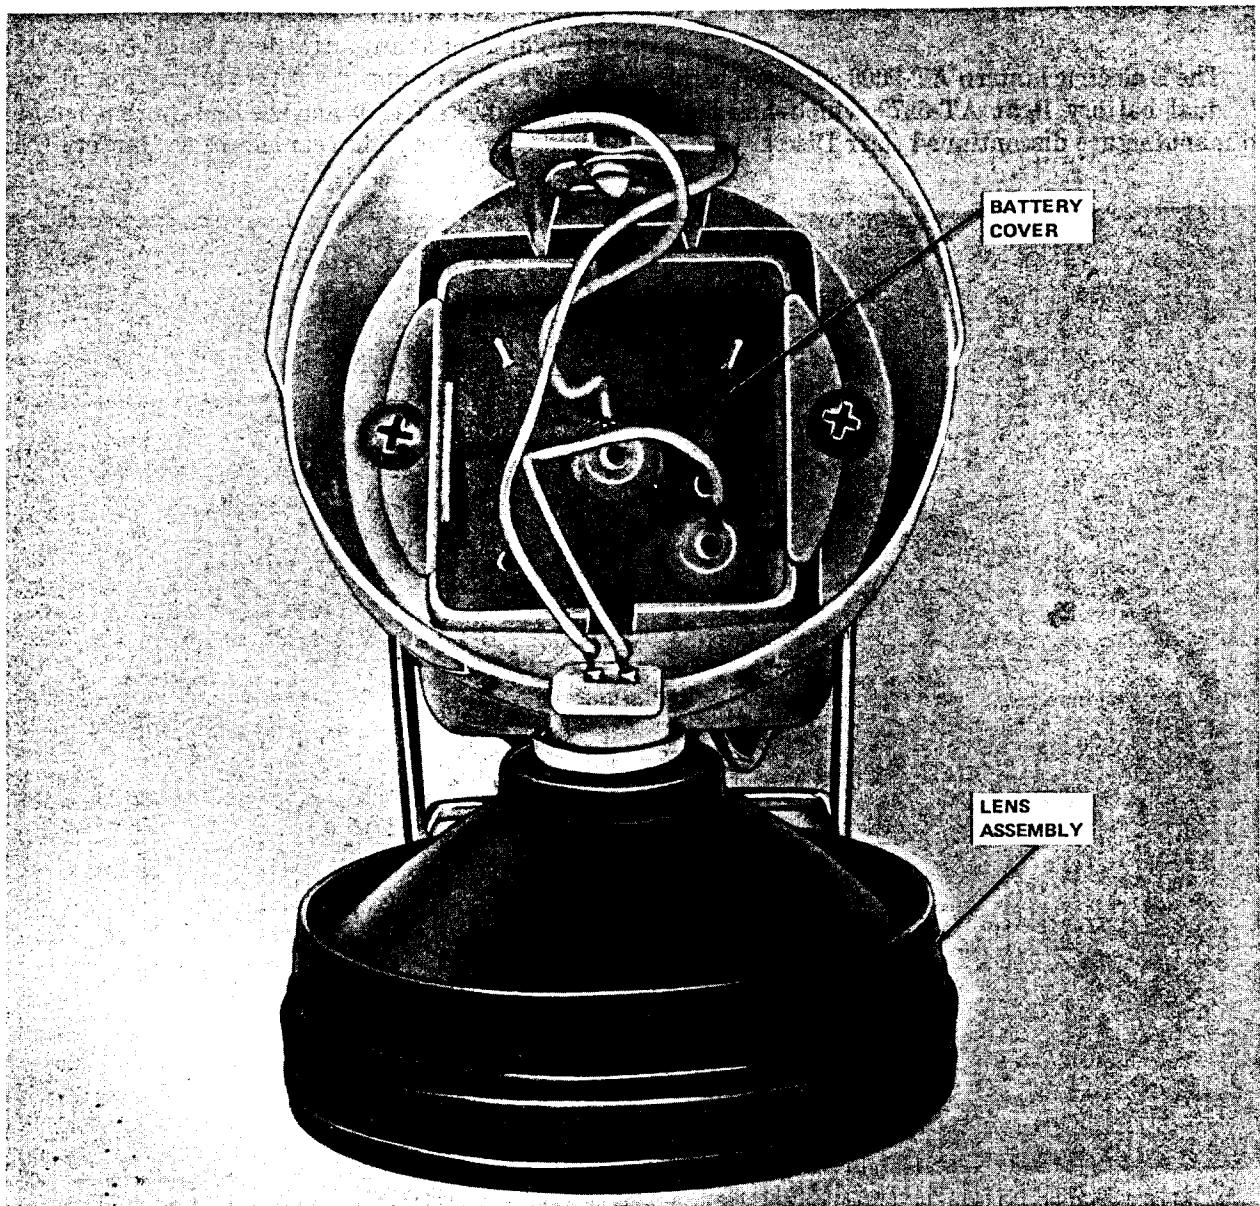

Fig. 2—B Electric Lantern—Lens Assembly Removed
2.02 The lens assembly must be removed to change the focus, replace the bulb, or replace the battery. The lens assembly is a friction fit into the lantern case and may be removed by grasping the lip of the assembly and pulling outward. The removed lens assembly is shown in Fig. 2.